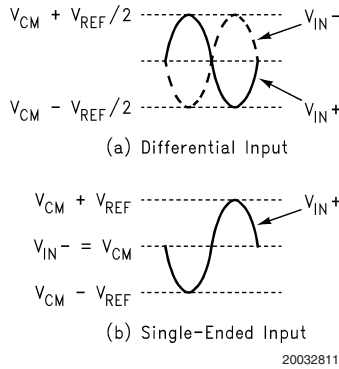

FIGURE 2. Expected Input Signal Range
*Figure 2* shows the expected input signal range.